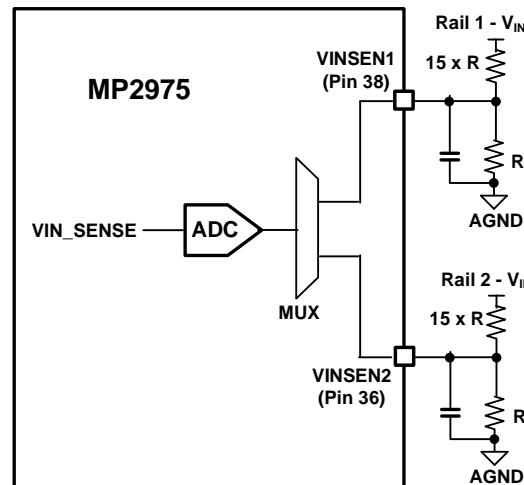

Figure 9: VIN-Sensing Block Diagram
The input power supply voltage can be sampled at the VINSEN1 and VINSEN2 pins for rail 1 and rail 2, respectively (see Figure 9). The sensed input voltage is used for PWM on-time calculations,  $V_{IN}$  under-voltage lockout (UVLO) and  $V_{IN}$  over-voltage protection (OVP),  $V_{IN}$  under-voltage (UV) warning, and input voltage monitoring. Connect a 16:1 resistive divider between the VINSEN1 and VINSEN2 pins to proportionally reduce the input voltage signal within a 1.6V ADC-sense range.